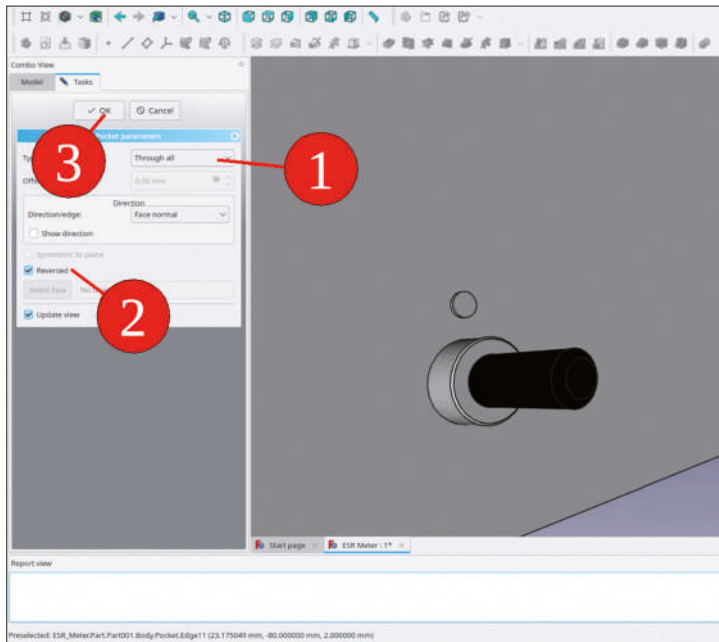

Figure 7-11
7. In the task window, select for the type 'Through all' and check the 'Reversed' checkbox (Figure 7-11).